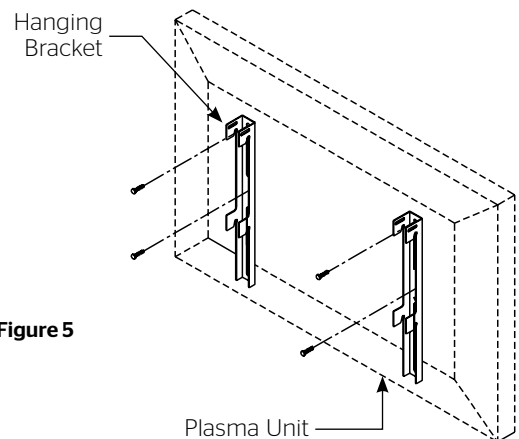

Figure 5
9. Mount the Hanging Brackets to the back of the monitor utilizing all the fastener points recommended by the monitor manufacturer. See Figure 5.